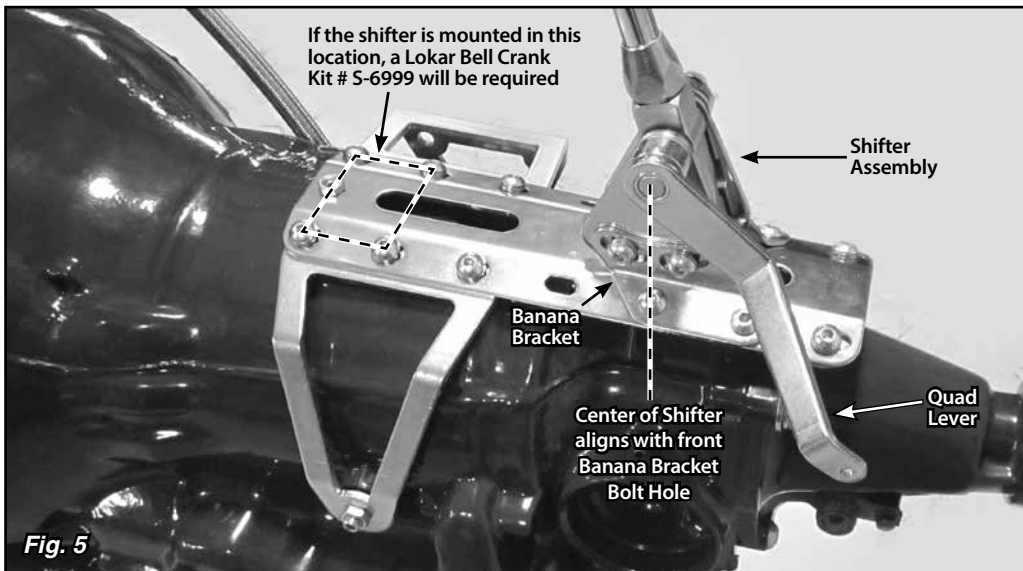

Fig. 5
Step 8: (Continued) Transfer that measurement to the transmission (or to the engine/transmission assembly if the engine is not installed in the vehicle). Mark that location on the main plate. The holes in the main plate that are closest to your mark are where the **FRONT** banana bracket bolts will need to be installed. **Fig. 5**
NOTE: If mounting the Shifter all the way forward, using the four bolt holes at the very front of the main plate, a Bell Crank Kit (Lokar Part No. S-6999*, sold separately) will be required. Fig. 5